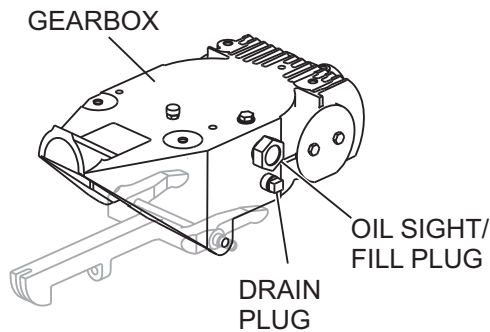

Figure 18. Gearbox
1. Determine if the **gearbox** oil is low by checking the oil sight/fill plug. Oil level should be showing. See Figure 18.